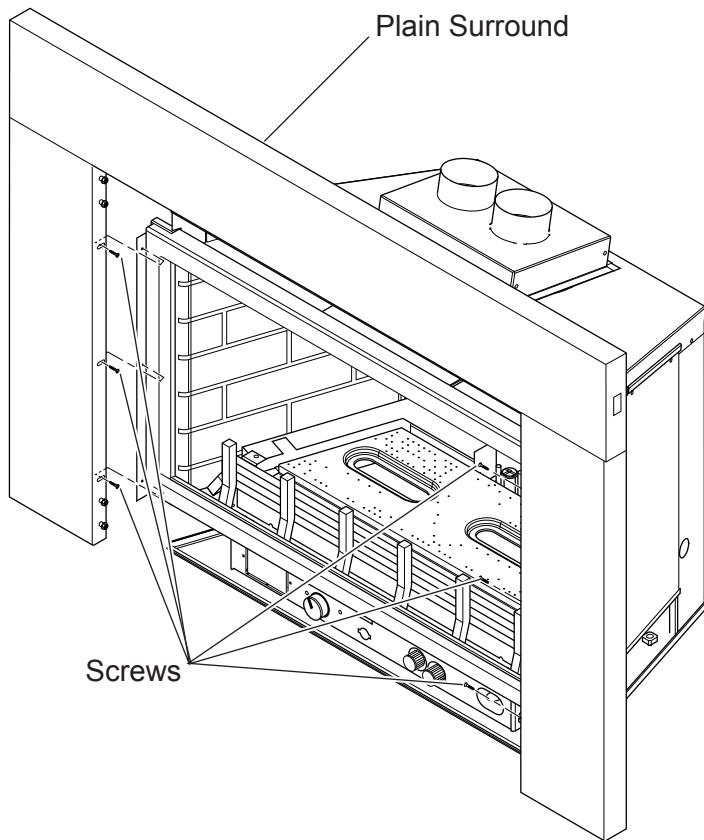

Figure 26 - Installing Plain Surround
3. Attach surround to unit with six (6) screws provided. *See Figures 26 and 27.*